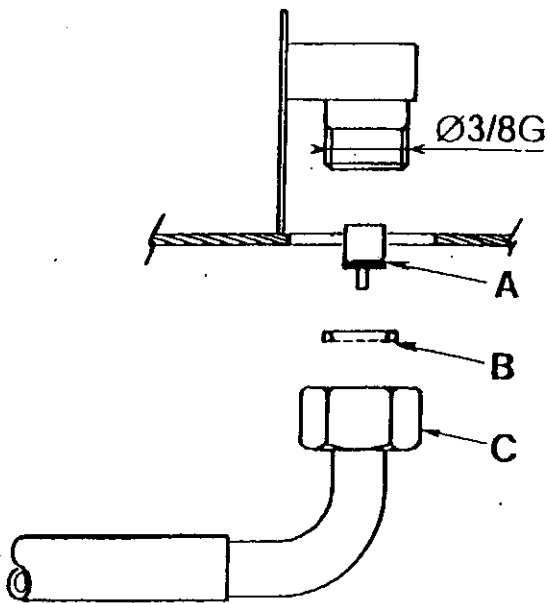

Fig : 3
The steam jet assembly (Fig. 3) is articulated so as to give easy access of the tube (H) into the liquid to be heated. If the container is deep, then the tube can be used away from the machine side.